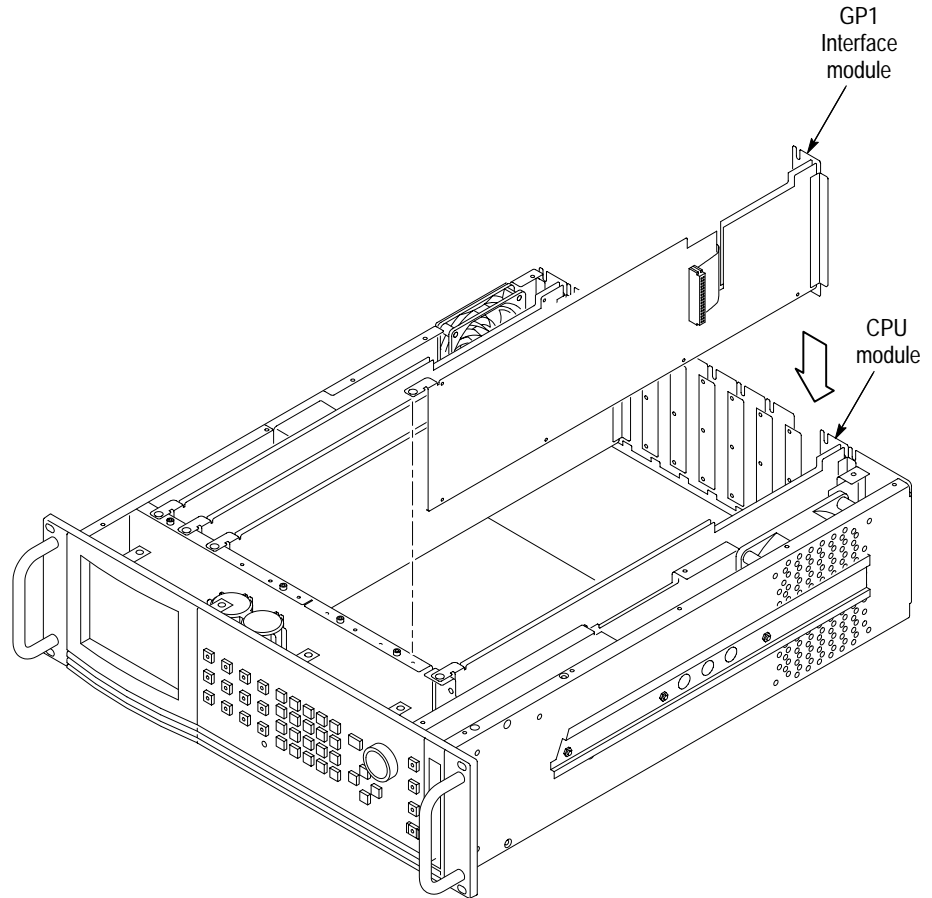

Figure C-5: Installing the GP1 module
7. Lower the GP1 Interface module into slot 10 as shown in Figure C-5. Note that the GP1 Interface module does not plug into the motherboard connector.